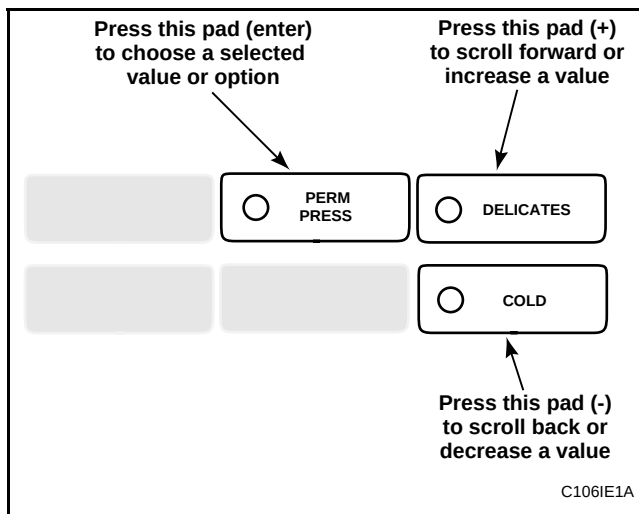

Figure 93
5. Press the DELICATES (+) or the COLD (–) keypad to increase or decrease the hours to the correct time. See **Figure 93**.